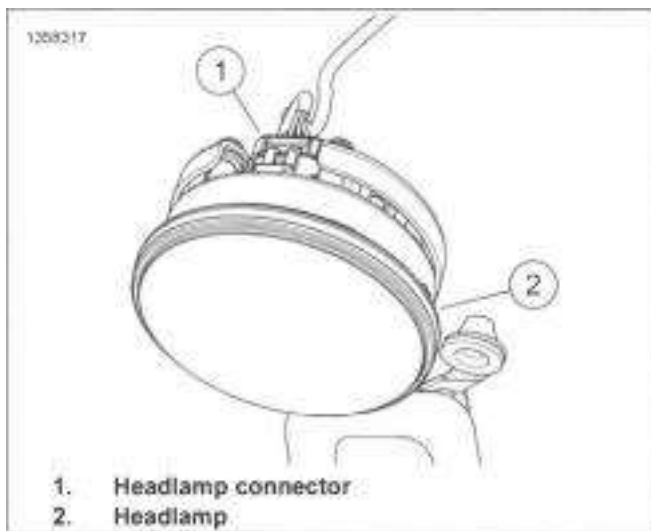

Figure 7-41. Headlamp Connector
2. See Figure 7-41. Disconnect headlamp connector (1).
3. See Figure 7-41. Connect headlamp connector (1).